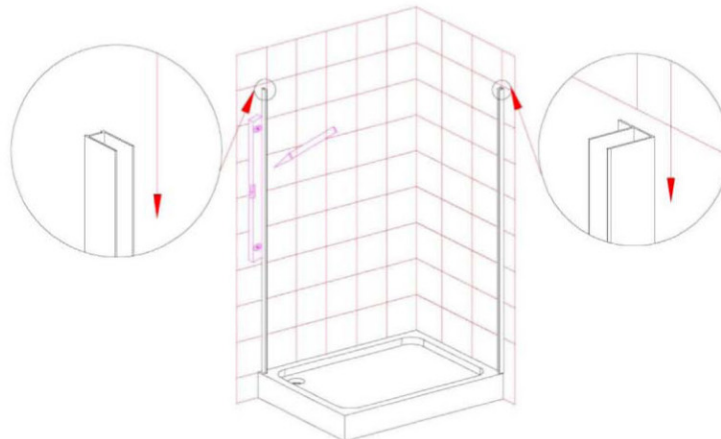

Fig 2
2. Place the wall profiles (1, 17) against the walls, keeping the distance between the profiles and the wall correct. Adjust the profile to make sure it is vertical by using a spirit level. Mark the holes on the wall with a pencil, as shown in figure 2.